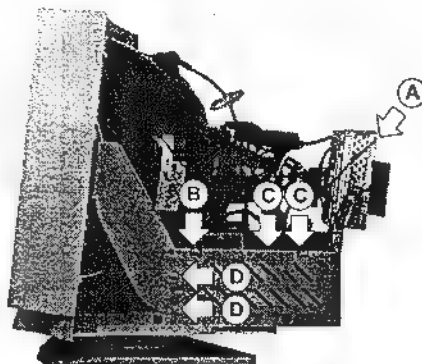

Figure 2-4 Remove the Neck Board (right side)
1. Disconnect the ground wire from the neck shield. Refer to the figure 2-4 (A).
2. Release the cord clamp from the FBT cover. Refer to the figure 2-4 (B).
3. Remove the two connected pins from the main board. Refer to the figure 2-4 (C).
1. Remove the two screws from the shield. Refer to the figure 2-4 (D).